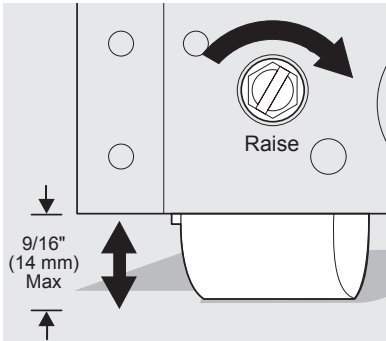

Figure 2
2. Use a flat-blade screwdriver or $\frac{3}{8}$ " socket wrench to raise or lower the front rollers (Figure 2). Do not raise the cabinet more than $\frac{9}{16}$ ".